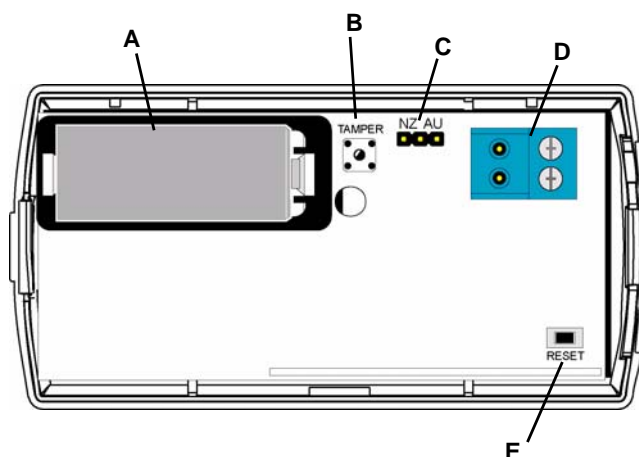

Figure 1 EN1501/EN1501-XL Components
1. Place the selection jumper included in the accessory pack on the appropriate frequency band selection pins (Figure 1).